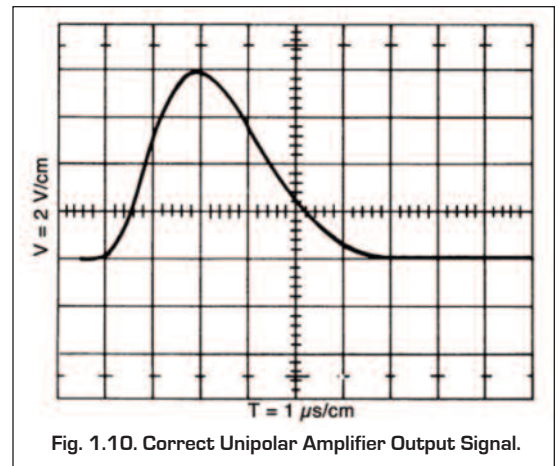

Fig. 1.10. Correct Unipolar Amplifier Output Signal.
5. Connect the second arm of the BNC tee on the 551 Timing SCA DC INPUT to the oscilloscope CH1 Input. Confirm that this routes the UNipolar OUTPUT of the 575A Amplifier via the tee to the oscilloscope CH1 Input. Adjust the amplifier gain controls until the output pulses have an amplitude of 8.5 V. The oscilloscope parameters should be the same as those in Table 1.1 except that the Vertical Scale should be 2 V per major division, and the Horizontal Scale should be 1 μ s per major division. The correct output pulse should look like the signal shown in Fig. 1.10.